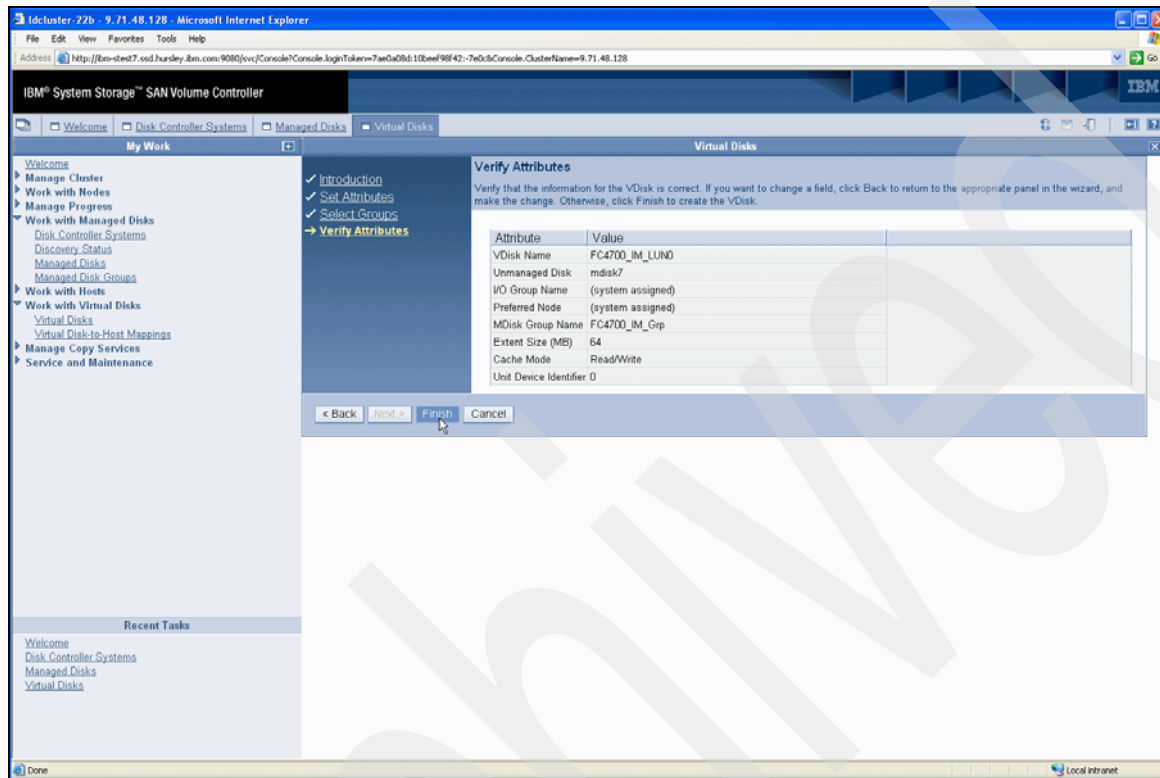

Figure 6-24 Create Image Mode VDisk verify attributes
10. On the final panel (Figure 6-24) check carefully all the parameters you have entered. This is your last opportunity to change the configuration before the Image Mode VDisk is created. If everything is in order, click **Finish**.